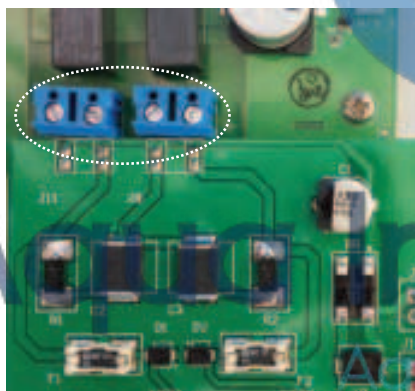

Figure 3. Wiring Terminal Blocks
5. Install the 522478 daughter board so that all four pins are in the correct holes in the J8/J11 terminal blocks. Tighten the four screws. See Figure 3.